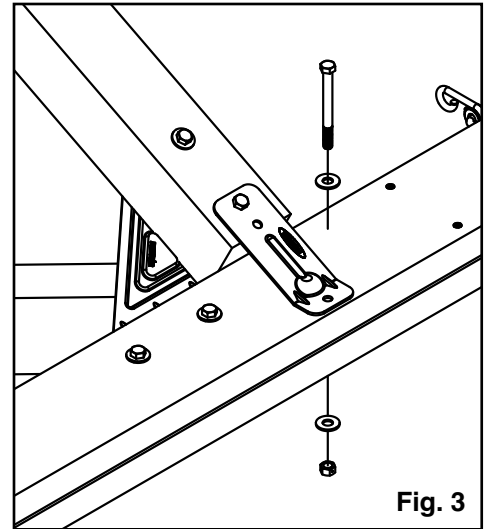

Fig. 3
Make sure brace is square to beam. Using the brace as a template, drill a 3/8" hole completely through beam. (Fig. 3)
4. Position the Climbing Steps Assembly into the 21½" opening of your play deck so that the top surface of the top step is 12" from the top surface of your play deck (48" from the ground). Secure the Climbing Step Assembly to the play deck using three #14 x 1¼" pan head screws on each side as shown. **(Fig. 3)**